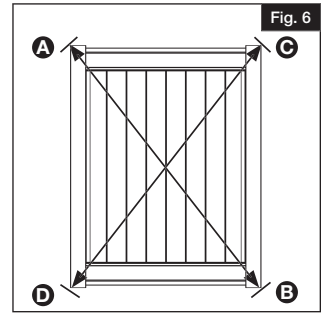

Fig. 6
Ensure gate is square. Measure diagonally from top of left corner rail (A) to bottom of right corner rail (B) and note the length. Then, measure diagonally from top of right corner rail (C) to bottom of left corner rail (D). Note the length. Make sure both measurements are the same before installing screws into uprights (Fig. 6).